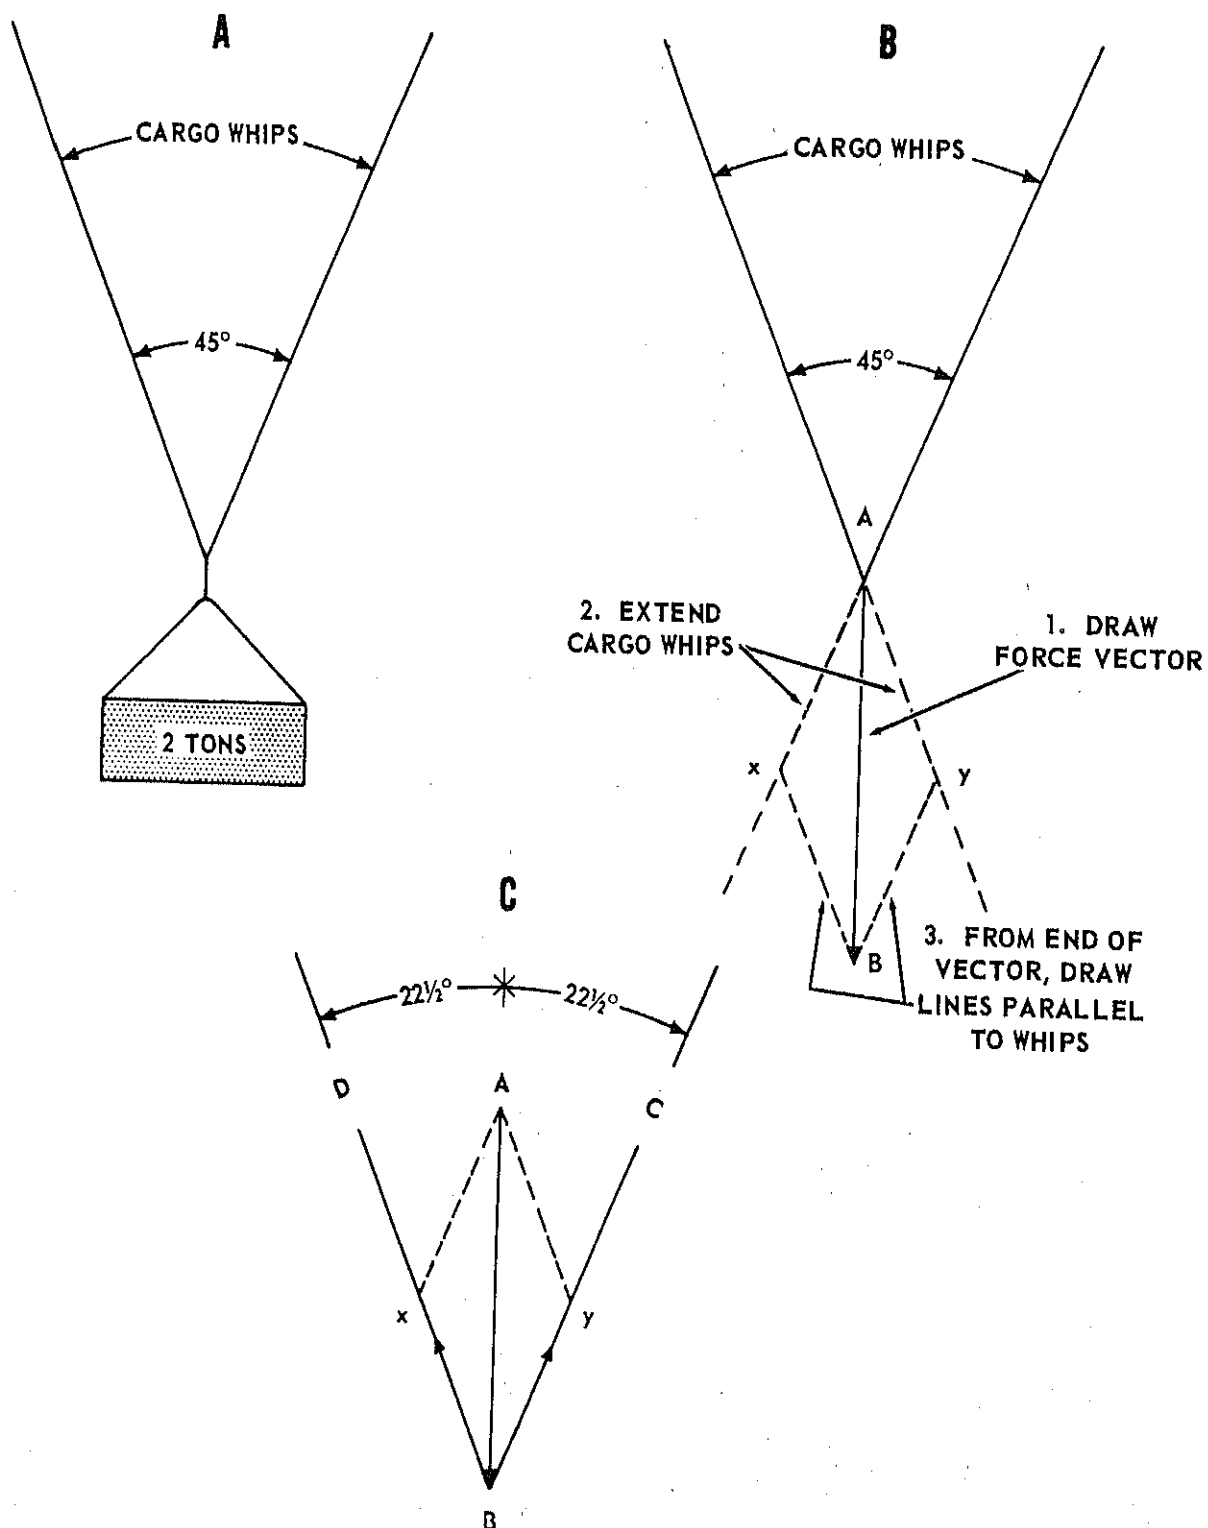

Figure 2-1.—Finding tension in cargo whips with load suspended midway between boom heads.
View A in figure 2-1 represents a 2-ton weight suspended by the cargo whips in the yard-and-stay rig. The whips form an angle of 45° . In our example, the weight hangs midway between the boom heads; thus, the whips share the load equally.
The accepted method of constructing a force parallelogram is shown in view B of figure 2-1. A force vector is drawn from the point of action (A). The whips are extended down and, from the end of the vector (B), lines are drawn parallel to each of the cargo whips. This completes the parallelogram, AyBx.